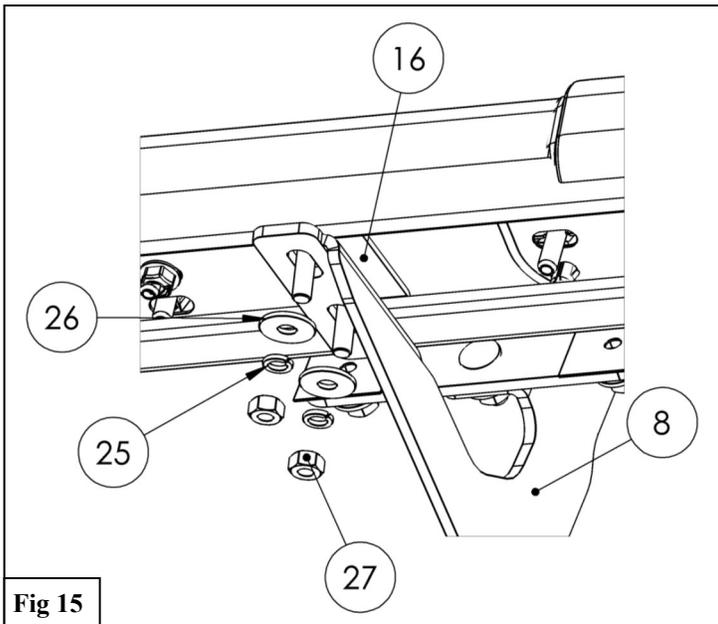

Fig 15
13. Installation of the step boards will utilize the supplied black M8 hardware with Plate Adapters (16) for all brackets excluding the Link Brackets (4). The Link Brackets (4) will use the supplied black M10 hardware. See **Figures 15 & 16**.